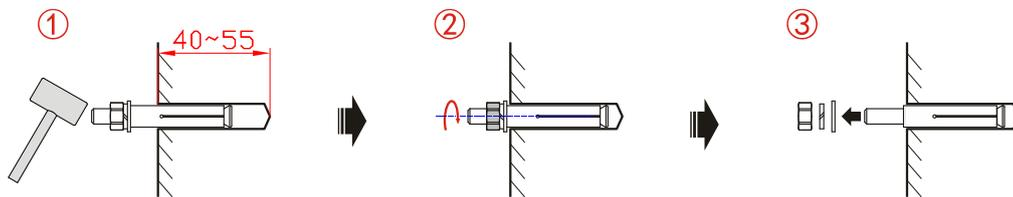

Figure3-19 Install the expansion bolts (unit: mm)
Step 3 Drill holes and install the expansion bolts M6, as shown in Figure3-19.